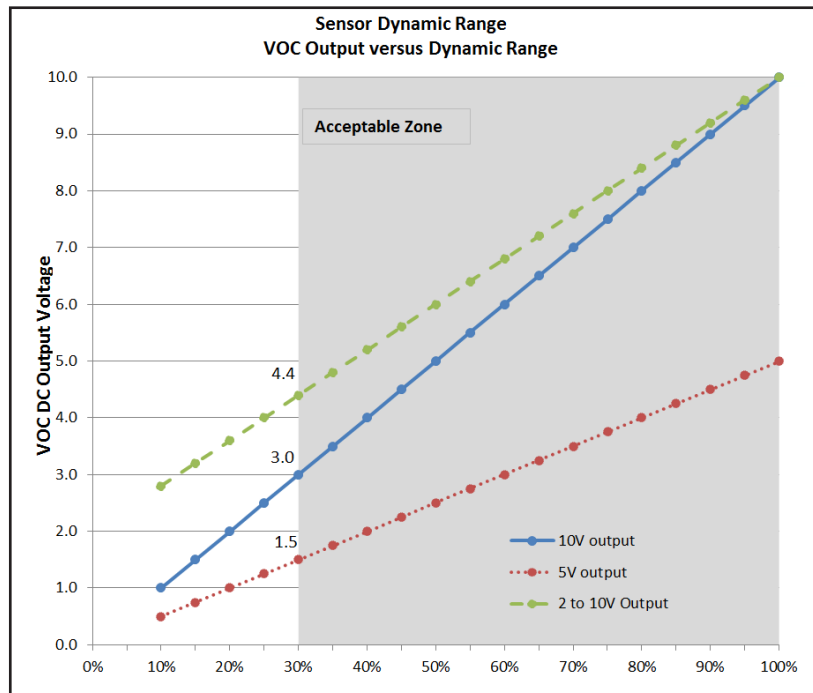

Fig 21: Acceptable Dynamic Range Output
- A. The VOC algorithm requires a dynamic range of greater than 30% for proper operation. Sensors reporting dynamic range of 30% or less should be considered for replacement. (See Fig 21)